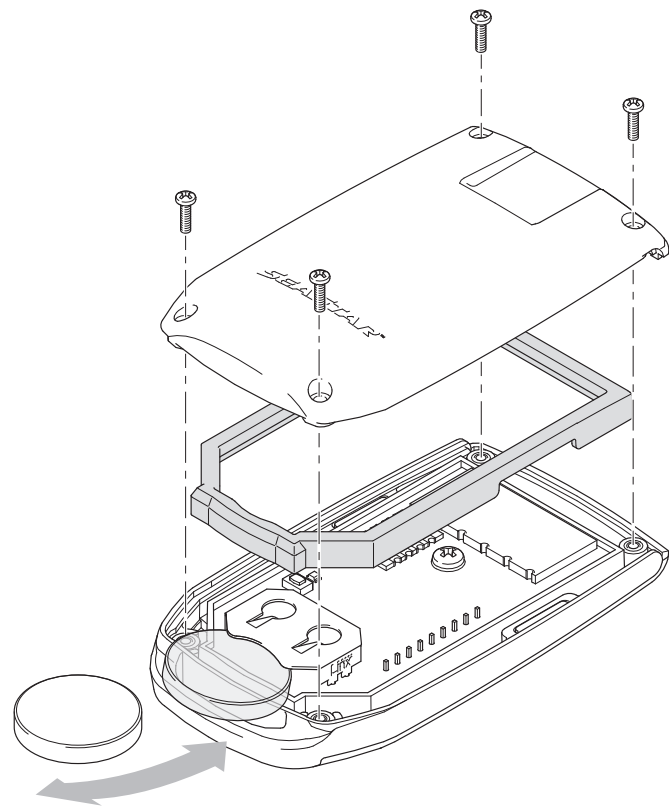

Figure 2-6. Key fob battery replacement.
4. Slide the battery out as shown in figure 2-6.